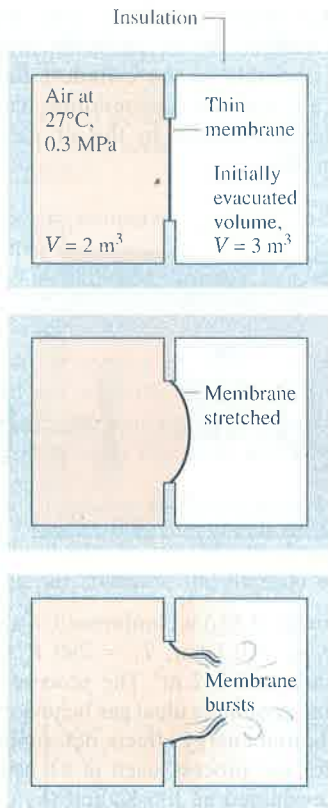

Fig. P3.129
- 3.129** As shown in Fig. P3.129, one side of a rigid, insulated container initially holds 2 m^3 of air at $27^\circ C$, 0.3 MPa . The air is separated by a thin membrane from an evacuated volume of 3 m^3 . Owing to the pressure of the air, the membrane stretches and eventually bursts, allowing the air to occupy the full volume. Assuming the ideal gas model for the air, determine (a) the mass of the air, in kg , (b) the final temperature of the air, in K , and (c) the final pressure of the air, in MPa .